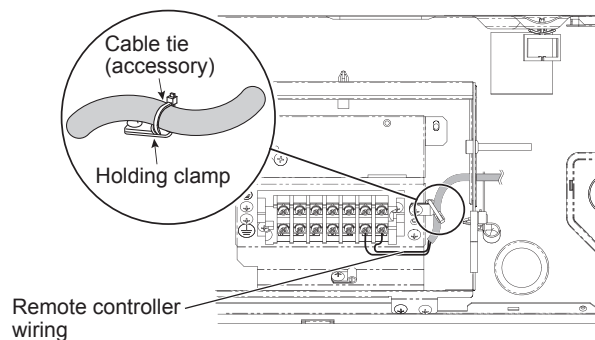

Fig. 3-2-5
- (6) Connect the remote controller wiring to the terminal board, route through the cable tie (accessory) to the holding clamp, and secure the remote controller wiring. (Fig. 3-2-5)
- (7) Mount the side cover, and close the air-intake grille.